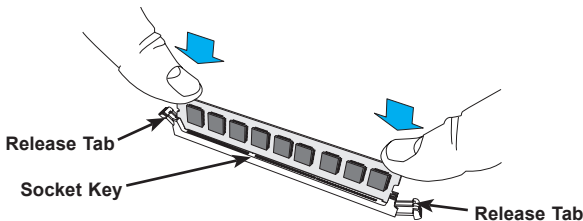

Figure 5-3. DIMM Installation
1. Insert each memory module vertically into its slot, paying attention to the notch along the bottom of the module to prevent inserting the module incorrectly (see Figure 5-3).